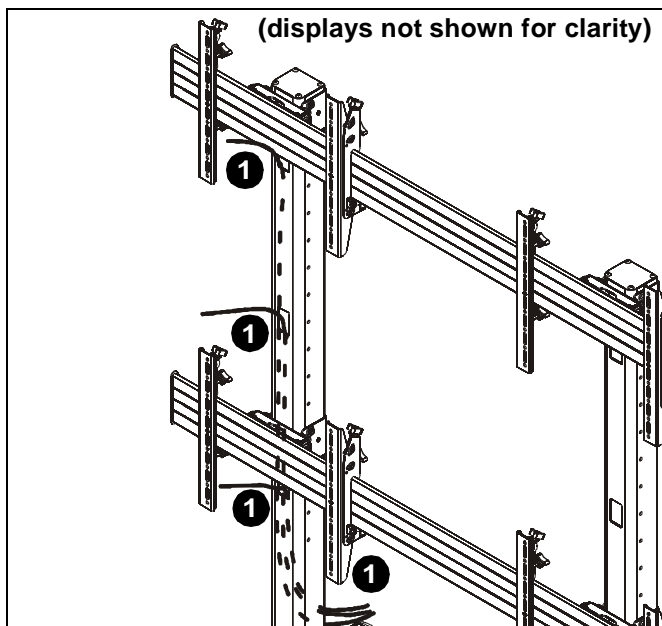

Figure 22
1. Route cables from displays through nearest holes on front of columns and out through back cable management hole. (See Figure 22)